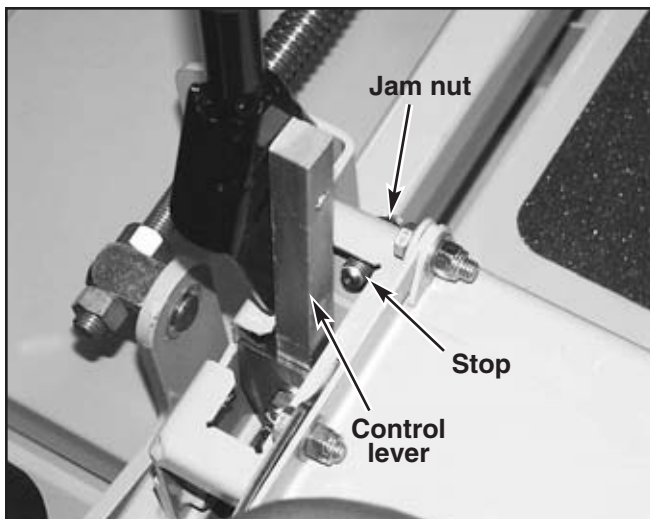

Figure 5-3
8. After adjusting for neutral it may be necessary to re-adjust the control lever stop. Fig. 5-3
The control lever stops (Fig. 5-3) are designed to do two things: First, and most important, they must keep the pumps from bottoming out internally. Secondly, the stops may be adjusted to help drive straight when the control levers are pushed forward against the stops.